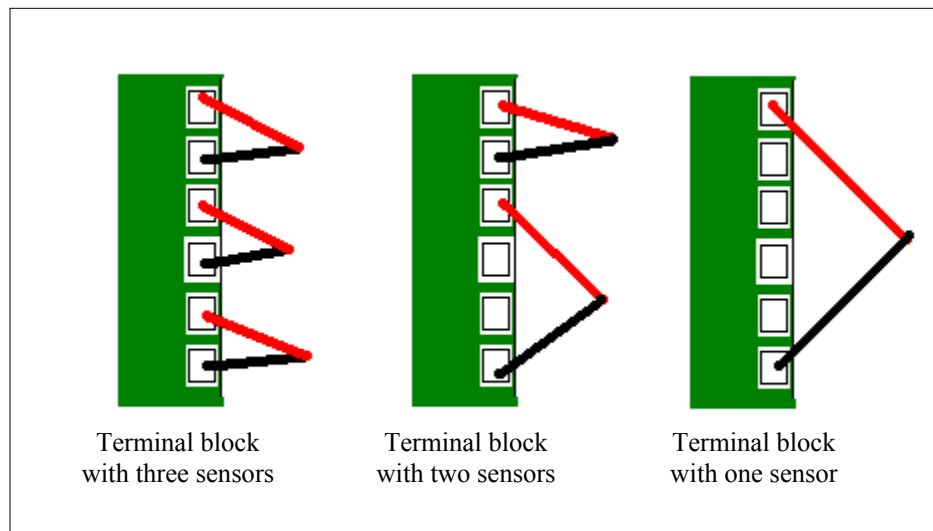

Figure 6
3. If you don’t have enough sensors to fill a terminal block, you can still complete the circuit. If you have only two sensors, hook the second heating wire of the second sensor into the last port of the set. If you have only one sensor, hook each end of the heating wire into the ports on each end of the terminal block. The diagram shows three wiring schemes that achieve a complete circuit (see figure 6).